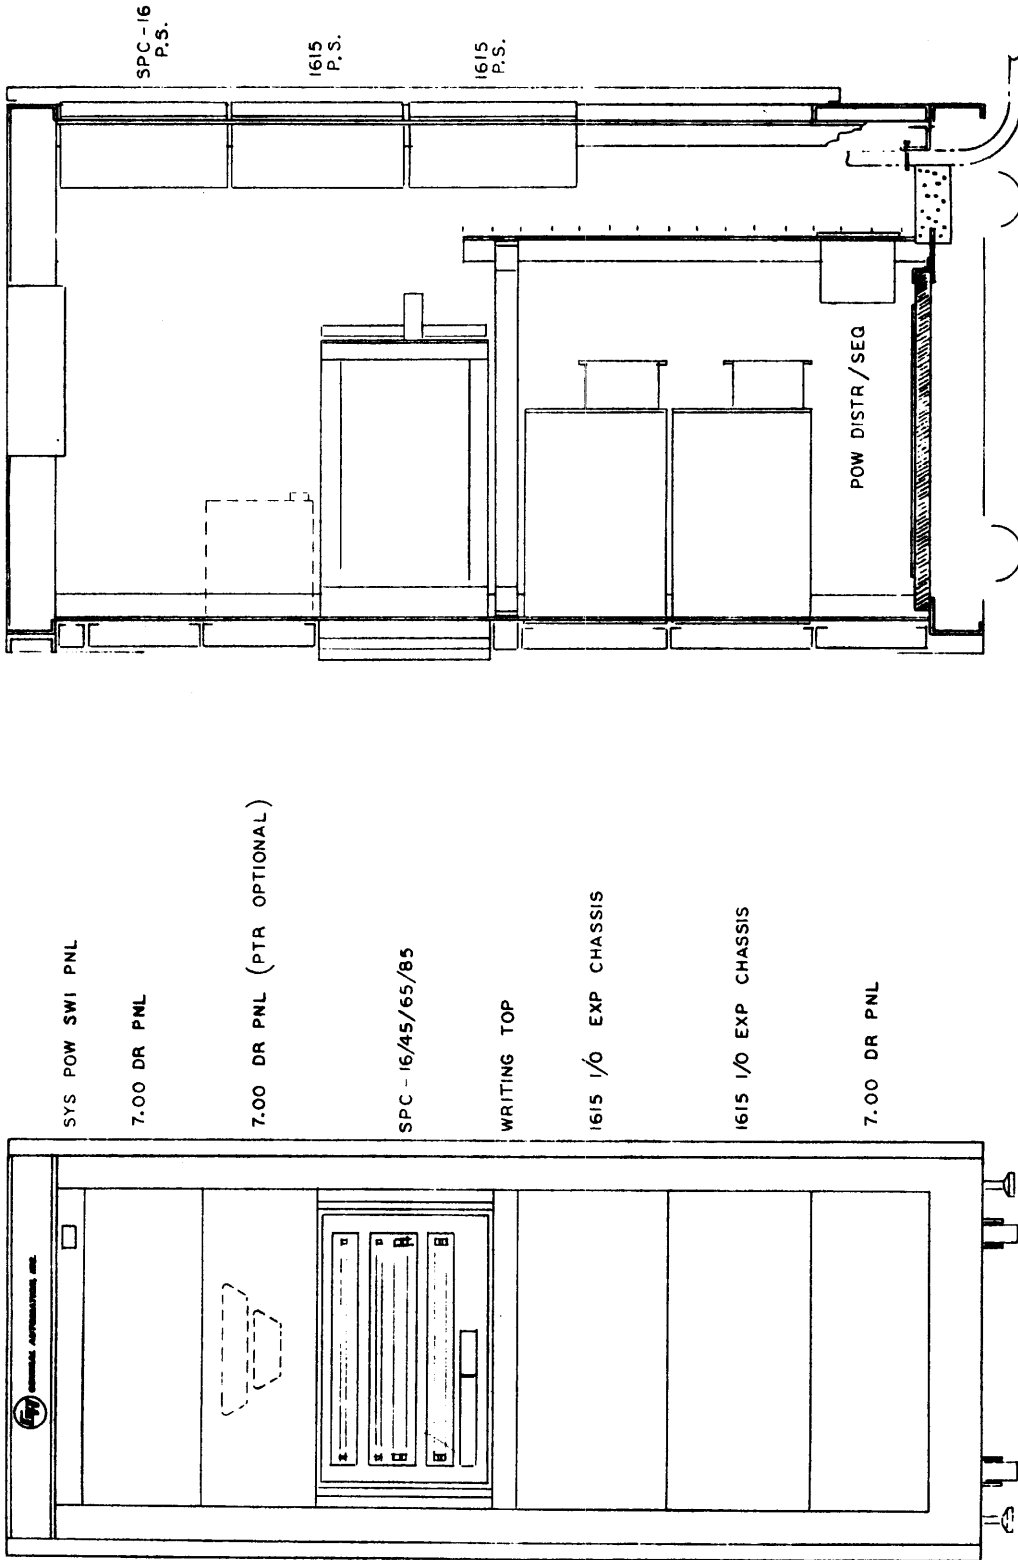

Figure 2-12. 1901 System Enclosure with SPC-16/45/65/85, Two 1615 I/O Expansion Chassis and Paper Tape Reader (Optional)
- o Figure 2-12 shows an SPC-16/45/65/85 mounted with two 1615 I/O Expansion Chassis and optional Paper Tape Reader.